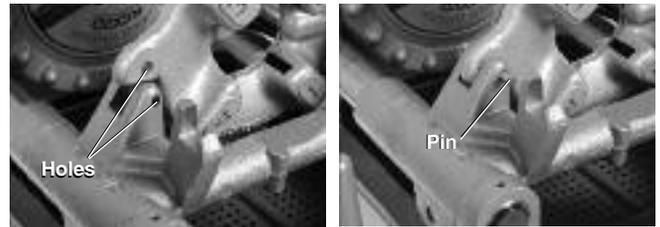

Figure 26 – Retaining LH Die Head in Place
- Place a  $\frac{5}{16}$ " pin 2" long through the holes in carriage rest and left hand die head to retain in place (see Figure 26).